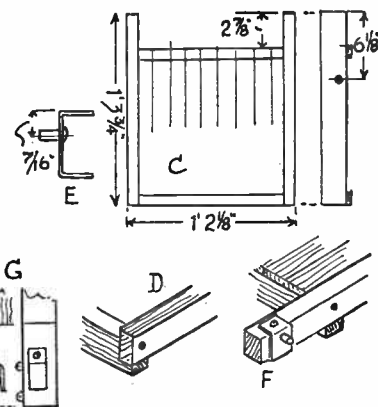

Fig. 3
The seat and parts relating to it are grouped together in Fig. 3. A plan and side view of the seat are shown at (C). A recess is cut in the ends of the cross rails to within $\frac{1}{4}$ in. of the bottom to make